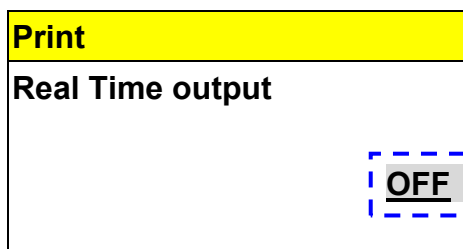

Figure 131
- C. Press  or  button to enable or disable the real time printout, and press  button to store the parameter in Figure 131.